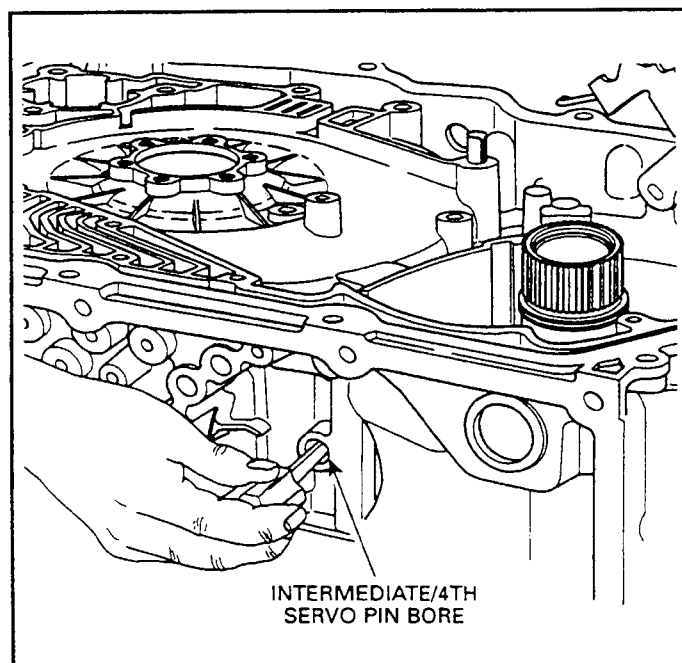

Figure 155
29. Verify the proper positioning of the band by inserting a screwdriver through the servo bore as shown in Figure 155.
30. The screwdriver should press on the servo pin target area and compress the band around the reverse input clutch housing (See Figure 155).